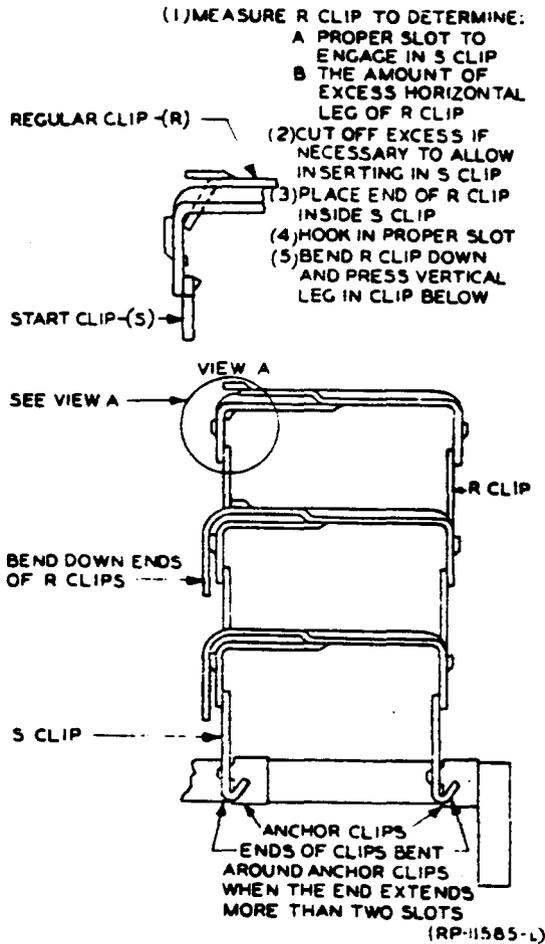

FIG. 5 DISPOSING OF PROTRUDING END OF CLIPS (PARS. 3.51, 3.52, 3.522, 3.5212)
3.51 Where the vertical end of a start or regular clip extends more than two slots below the bottom of the toothed portion of the anchor clip, bend the end of the leg against and around the bottom edge of the anchor clip as illustrated in Figure 5 using a pair of pliers R-2195.
3.52 Dispose of the excess ends of regular clips on runs only one clip wide, by one of the two following procedures as illustrated in Figure 5.
3.5212 Cut off end of horizontal leg (if too long to insert in the start clip per View A of Figure 5 using pliers R-2195, leaving one slot beyond that which is placed over the hook.
3.522 When clipping on other than the top layer of horizontal runs and on vertical runs in unexposed places, press the excess horizontal leg of the regular clip down against the start clip as shown in Figure 5.